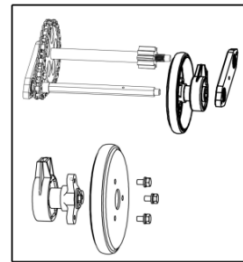

Figure 27
6. Remove the three screws which secure the friction wheel's side plates together, change the rubber ring only. See Figure 27.